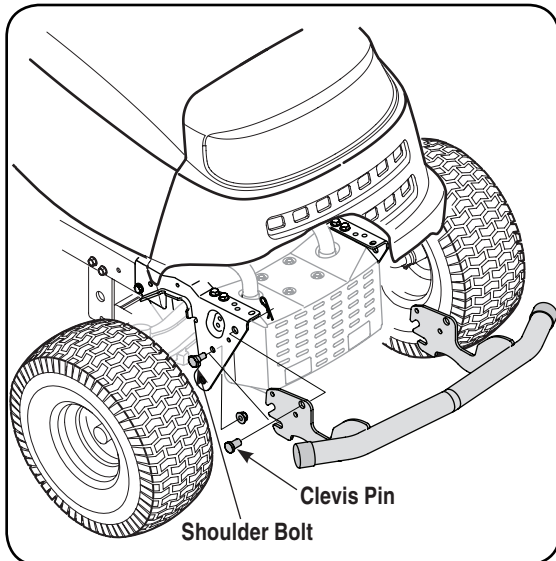

Figure 1
1. Install the two shoulder bolts onto the tractor as seen in Figure 1, and secure with two flange lock nuts from the hardware pack.
2. To mount the bumper to the tractor, hook the notched ends (slots) of the bumper onto the shoulder bolts on the sides of the tractor frame. See Figure 1.
3. Align the holes in the bumper with the holes in the tractor frame and insert the clevis pins through the holes from the outside. Secure the pins in place with the cotter pins. See Figure 1.